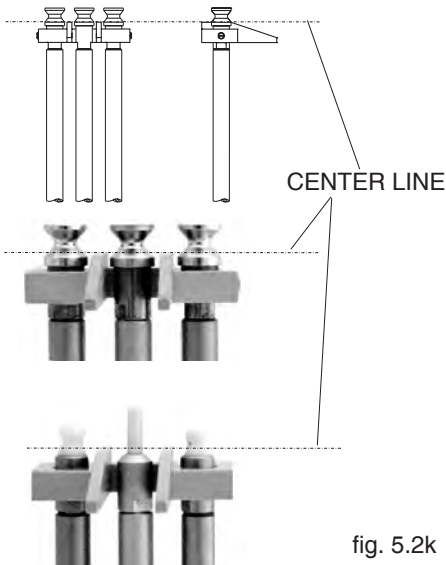

fig. 5.2k
- Push the FILAMENT GUIDE upward far enough to ensure that the ROLLERS do not rub against the FILAMENT GUIDE and that the process material can slide unhindered into the roller grooves (fig. 5.2k CENTER LINE).